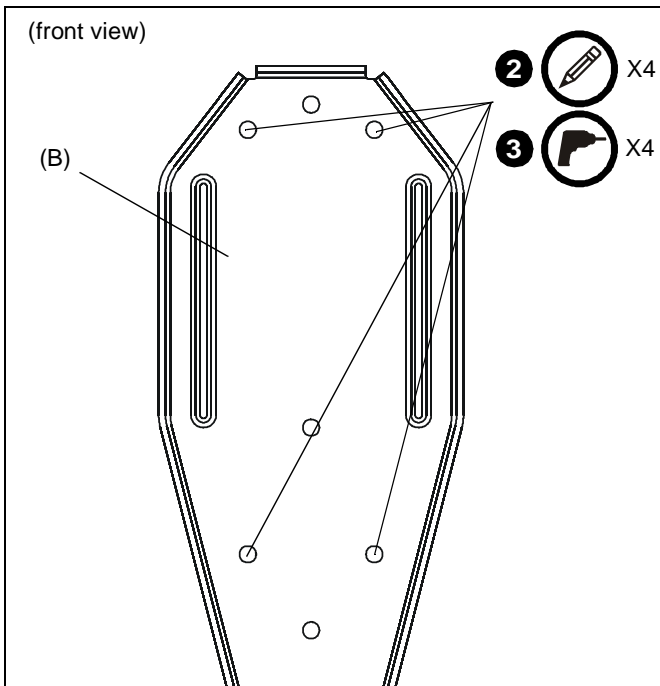

Figure 1
2. Using mounting bracket (B) as a template, mark four holes at the outer holes in bracket. (See Figure 1)
3. Drill four 13/32" holes at marked locations in wall. (See Figure 1)